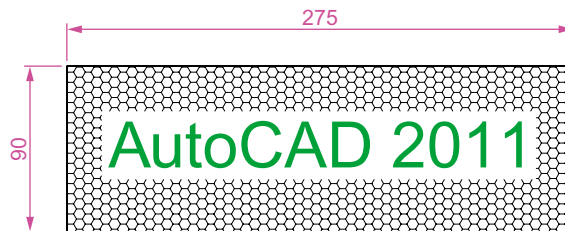

Fig. 8.18 Sixth example – text in hatching
Sixth example – text in hatching (Fig. 8.18)
1. Construct a pline rectangle using the sizes given in Fig. 8.18.
The result is shown in Fig. 8.18.